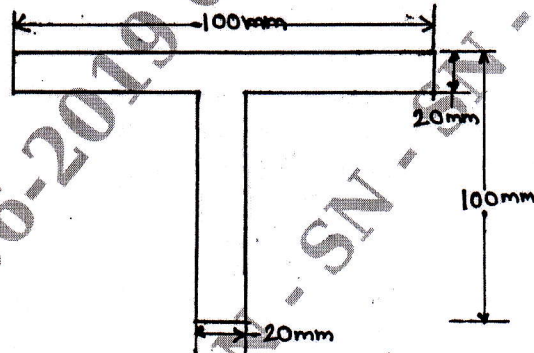

Fig Q6(b)
- b. A cast iron beam of T-section as shown in Fig Q6(b) is simply supported on a span of 8m. The beam carries a UDL of 1.5 kN/m length on the entire span. Determine the maximum tensile and maximum compressive stresses.